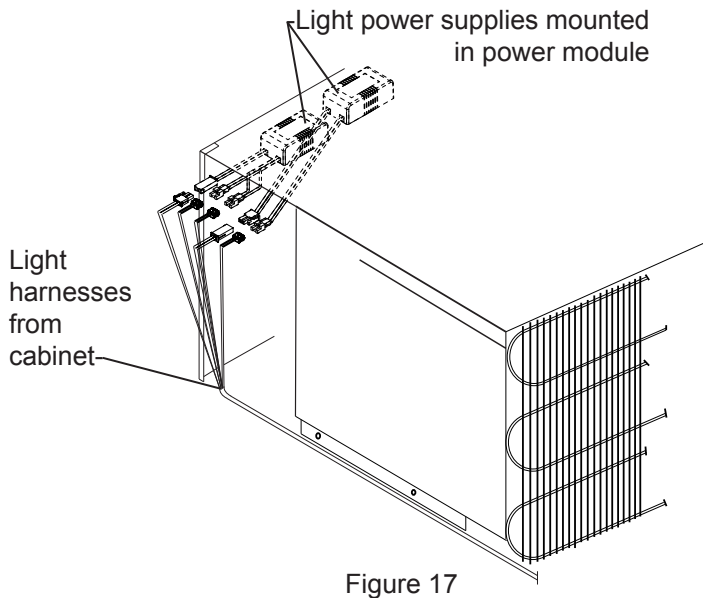

Figure 17
On 18" wide freezer models only (M42CSS) (M48CSS) (MPRO48CSS): Plug in the (5) electrical connectors for the lights coming from the cabinet into the (2) power supplies which are attached to the power module, see Figure 17.